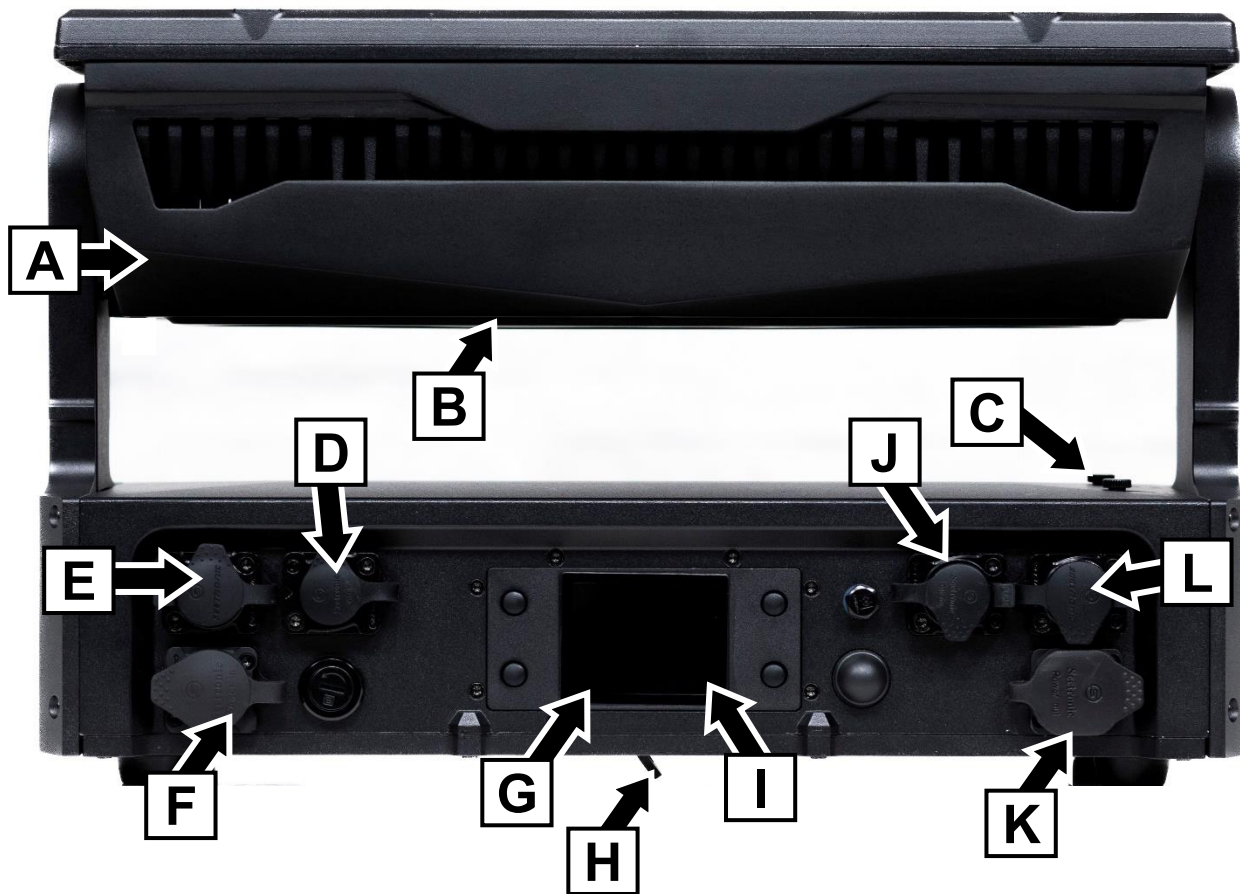

Figure 2. JDC Burst 1 overview
3. See Figure 2 on page 16. Open the retractable safety cable attachment eyelet on the base of the unit marked **H** in Figure 2 and fasten the safety cable to it.